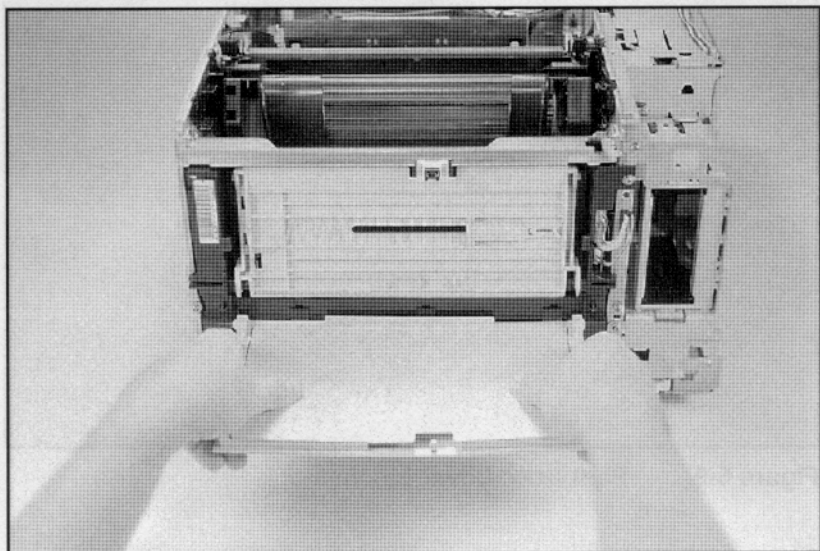

Figure 6-10 Removing the MP Tray Door
- 3 Bend the Door Slides out to release the tray from the door slides (see Figure 6-10). Place the inner door in the “up” position.
- 4 Flex the MP tray at the lower middle and release the door from its hinges (see Figure 6-10).